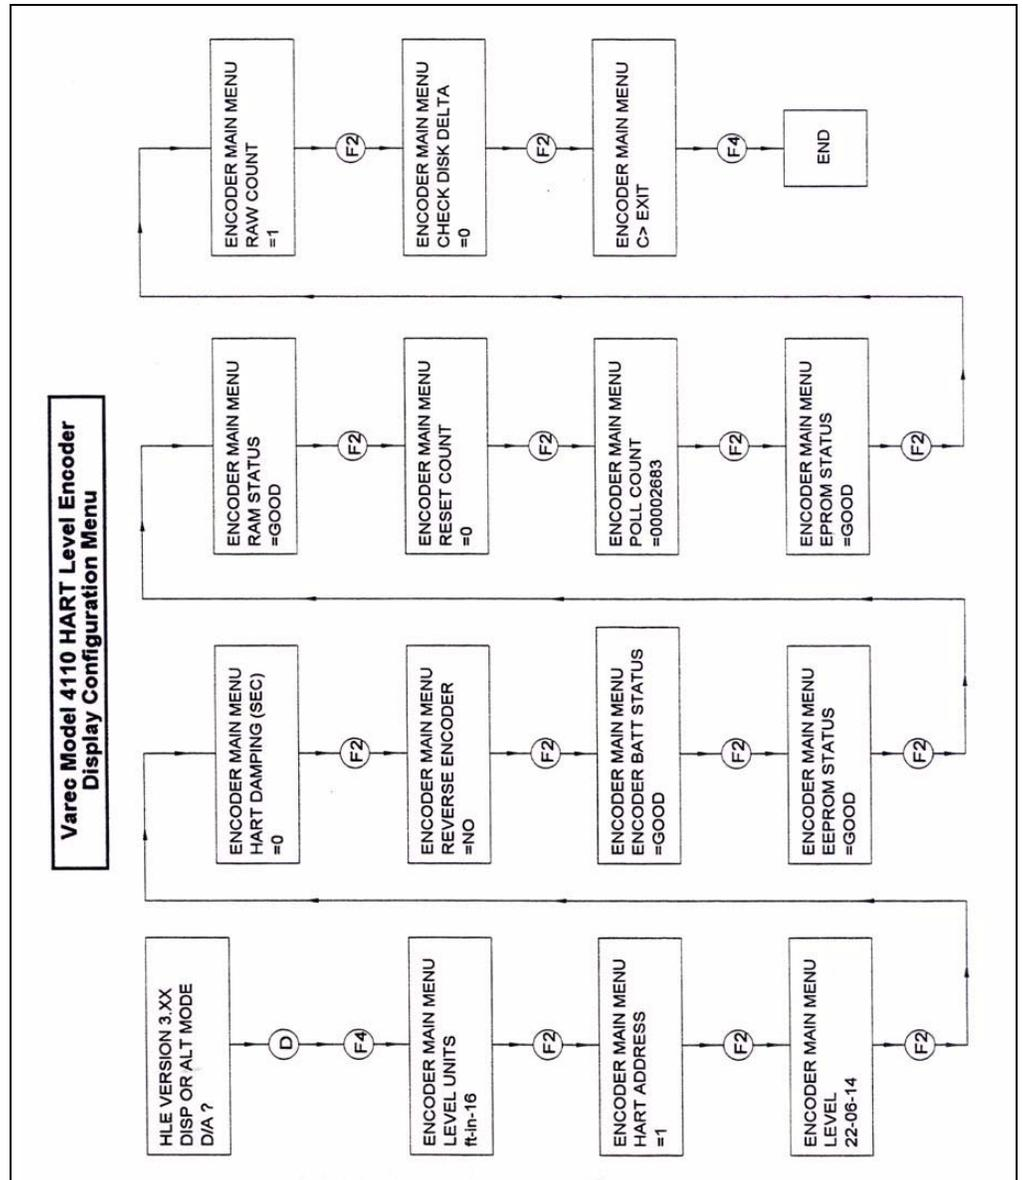

Figure 3-5: 268 HHT Menu Tree - Display Configuration
10. Navigate through the menu to view or modify the configuration data as needed. The Display Mode menu tree is shown in Table 3-1 and in Figure 3-5 on page 15. The Alter Mode menu tree is shown in Table 3-2 and in Figure 3-6 on page 16.